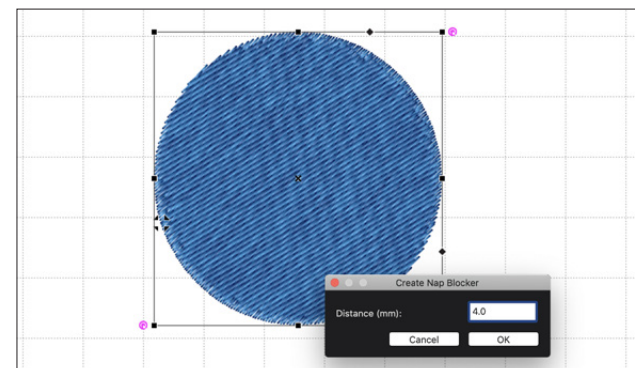

Figure 70
4. **Nap Blocker:** This allows you to create a knockdown stitch that reduces the nap on textured fabrics. This allows you to stitch over a smooth surface and prevents your stitches from sinking into textured fabric, like terry cloth. **See Figure 70.**